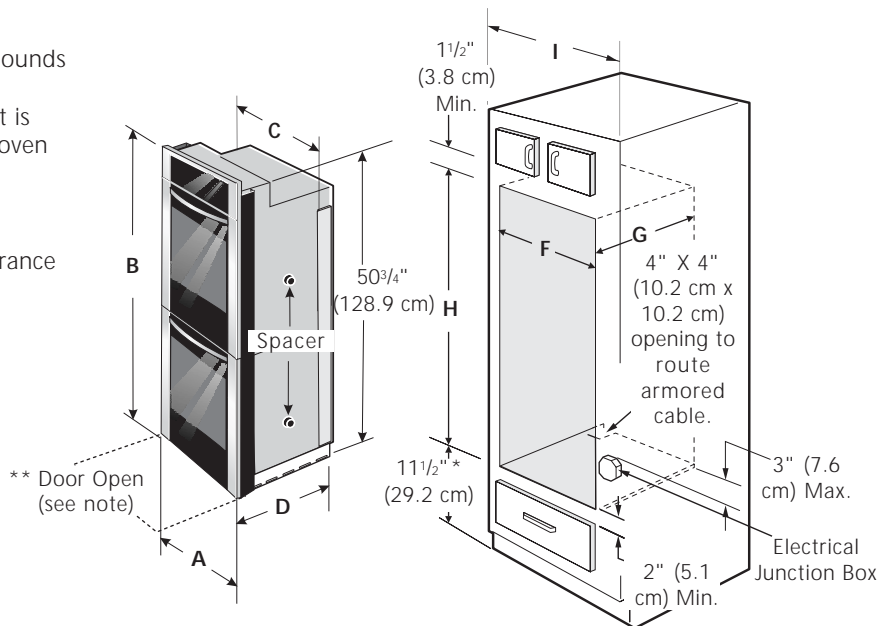

Figure 1
Refer to figure 1 for the dimensions applicable to your appliance, and the space necessary to receive the oven. The oven support surface may be solid plywood or similar material, however the surface must be level from side to side and from front to rear.
2. These appliances should be connected to the fused disconnect (or circuit breaker) box through flexible armored or nonmetallic sheathed cable. The flexible armored cable extending from the appliance should be connected directly to the junction box. The junction box should be located as shown in figure 1 and with as much slack as possible remaining in the cable between the box and the appliance, so it can be moved if servicing is ever necessary.